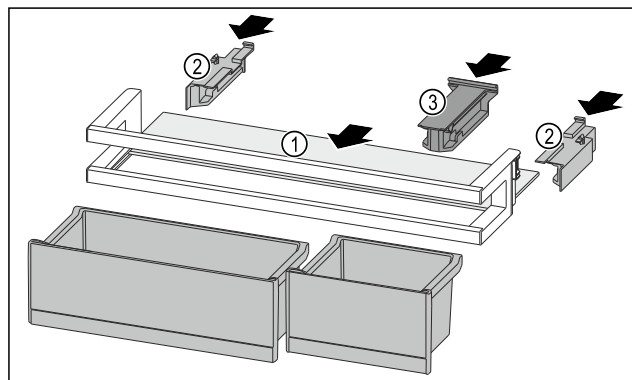

Fig. 263
- Push the shelf Fig. 263 (1) into the side recesses.
- Insert the side parts Fig. 263 (2).
- Insert the holding part Fig. 263 (3).